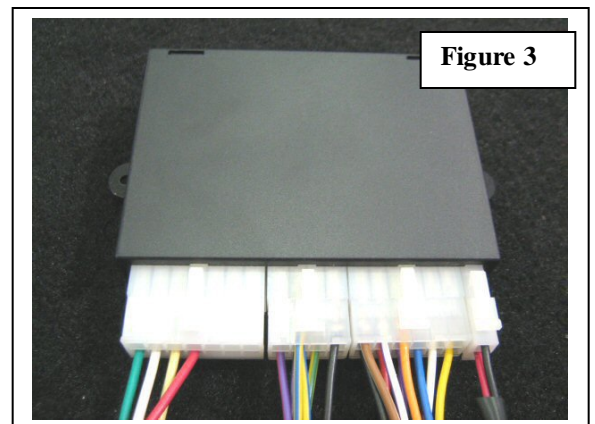

Figure 3
2.  Plug in the **Main Wiring Harness, Switch Harness, and Pedal Interface Harness** onto mating connectors of the Cruise Control Module. **Figure 3**